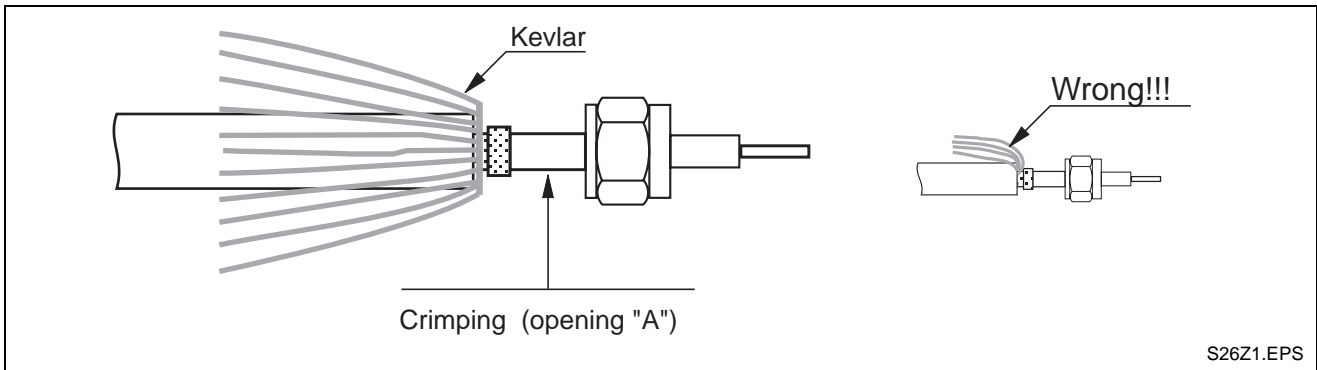

Fig. 7-7: Assembling an LWL connector
- ⇒ The inside lead crimped per Fig. 7-7 with opening „A“ of crimp pliers.
- ⇒ Push sleeve on the nut, shown in Fig. 7-7